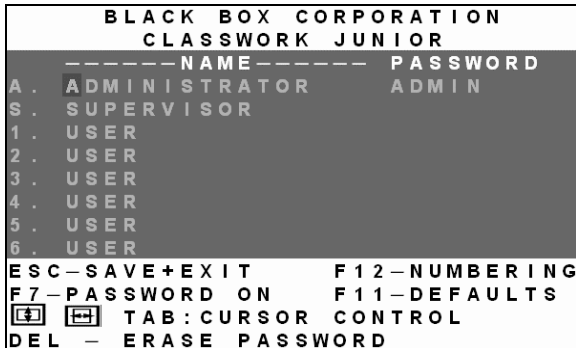

Figure 6-2 The Password window
3. Press Enter. The Password window appears. See Figure 6-2.
The Administrator sets up passwords for each User Profile in the Password window. See Figure 6-2. He can also edit the names to give each Profile a more identifiable name.
3. Press **Enter**. The Password window appears. See Figure 6-2. The first row marked **A** is for the Administrator name and password and the second row marked **S** is for the Supervisor name and password.
Set the 6 User profiles access levels from the OSD Setup window (**F3**). See Figure 6-3. The 6 User Profiles correspond to the 6 Users in the Password window see Figure 6-2 above.